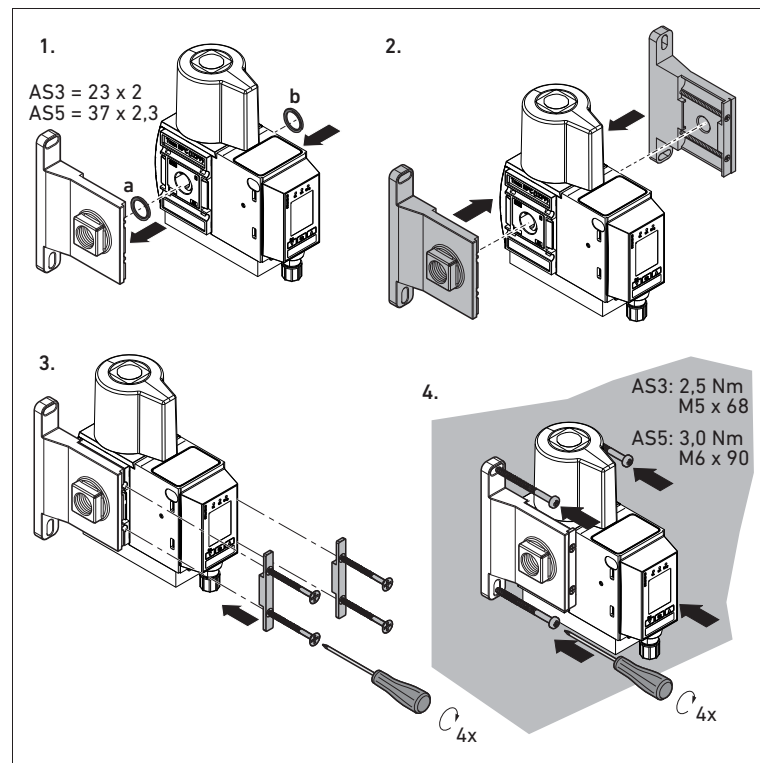

Fig. 2: Mounting the EV1X as a single valve
Figure 2 shows the assembly of the mounting elements using a single valve as an example.
Proceed as shown in Fig. 2 to mount a single valve:
**i** The blocked unit must be mounted on both sides with one mounting element each on the mounting surface (see Fig. 2.)